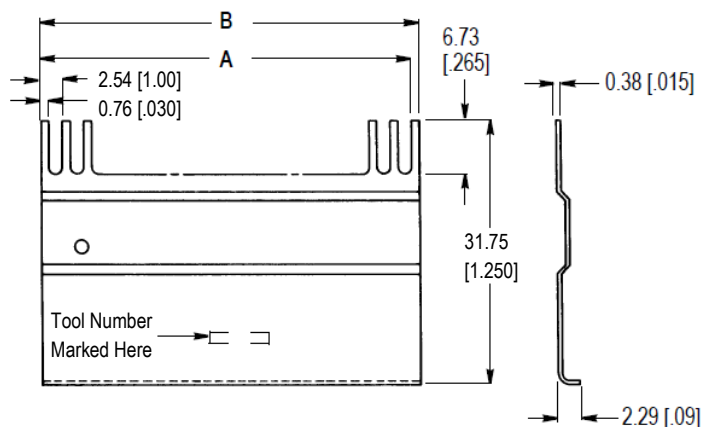

Figure 4
TE Connectivity (TE) recommends that the tool be inspected immediately upon receipt at the facility of use and at regularly scheduled intervals. To ensure proper operation, the tool should conform to the dimensions provided in Figure 4.
- Changed tool dimension in Figure 4 from 32.51 [1.280] to 31.75 [1.250].